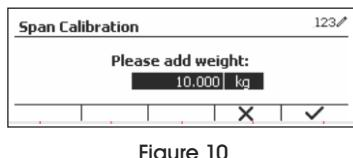

Figure 10
4. Press the softkey corresponding to the ✓ icon to initiate Span Calibration. (See Figure 10)